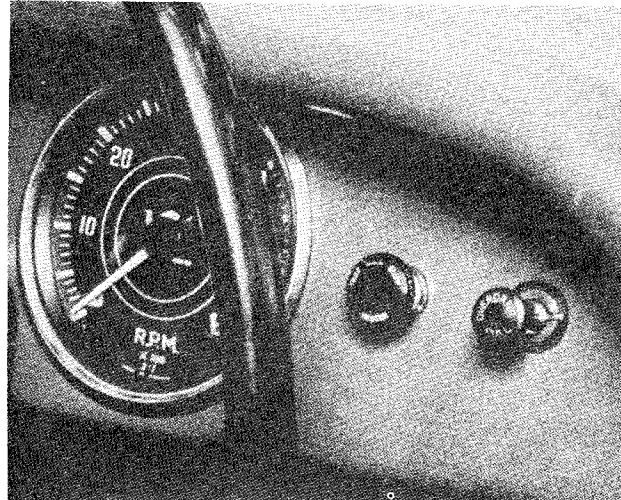

Fig. 37 Showing the position of the Overdrive Control.
**R.H. Drive Cars.** Two holes are pierced in the facia panel on the R.H. side of the speedometer and covered with fabric. The fabric should be pierced through the extreme R.H. hole and the operating switch fitted (see Fig. 37). The remaining hole is used for a heater switch when fitted.